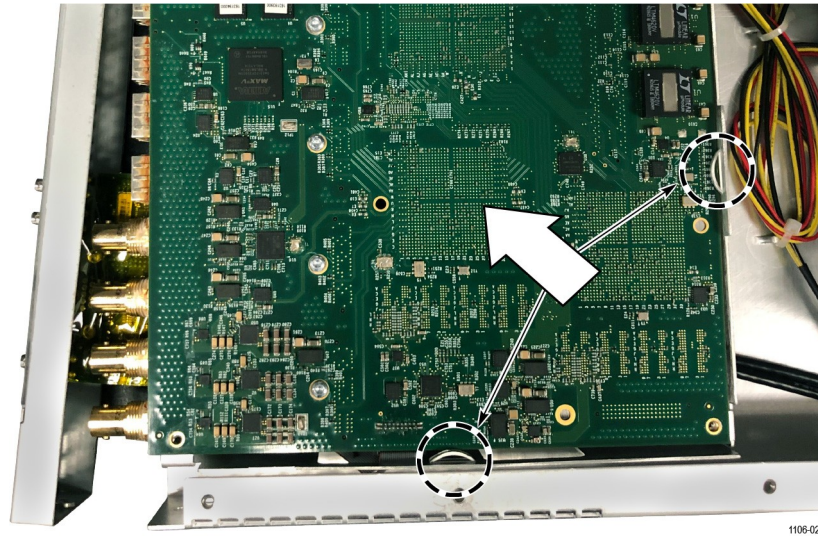

Figure 16: Remove the Mixed Media board from the grinchies
- Slide the Mixed Media board out from between the grinchies as shown in Figure 16.